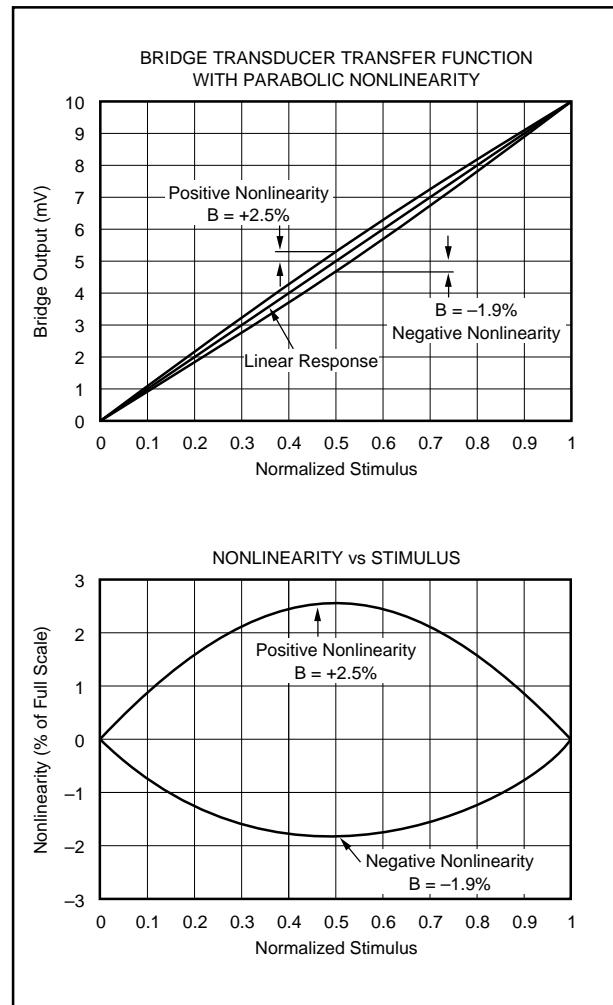

FIGURE 4. Parabolic Nonlinearity.
To determine the required value for  $R_{LIN}$  you must know the nonlinearity of the bridge sensor with constant excitation voltage. The linearization circuitry can only compensate for the parabolic portion of a sensor's nonlinearity. Parabolic nonlinearity has a maximum deviation from linear occurring at mid-scale (see Figure 4). Sensors with nonlinearity curves similar to that shown in Figure 4, but not peaking exactly at mid-scale can be substantially improved. A nonlinearity that is perfectly "S-shaped" (equal positive and negative nonlinearity) cannot be corrected with the XTR104. It may, however, be possible to improve the worst-case nonlinearity of a sensor by equalizing the positive and negative nonlinearity.
**Example:** The bridge sensor depicted by the negative-bowing curve in Figure 4. Its full scale output is 10mV with constant 5V excitation. Its maximum nonlinearity,  $B$ , is  $-1.9\%$  referred to full scale (occurring at mid-scale). Using equation 5: